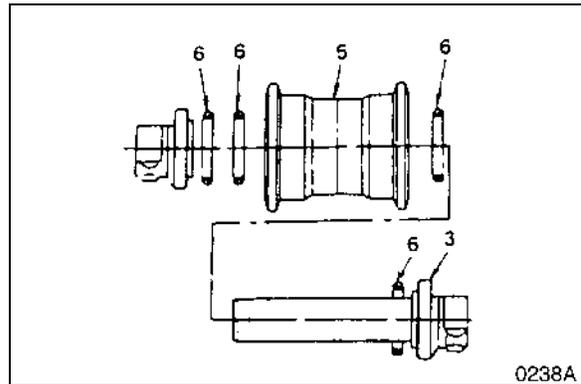

**Figure 35**
3. Align collar (3, Figure 35) and axle (4) pin holes and pin (1) the collar.